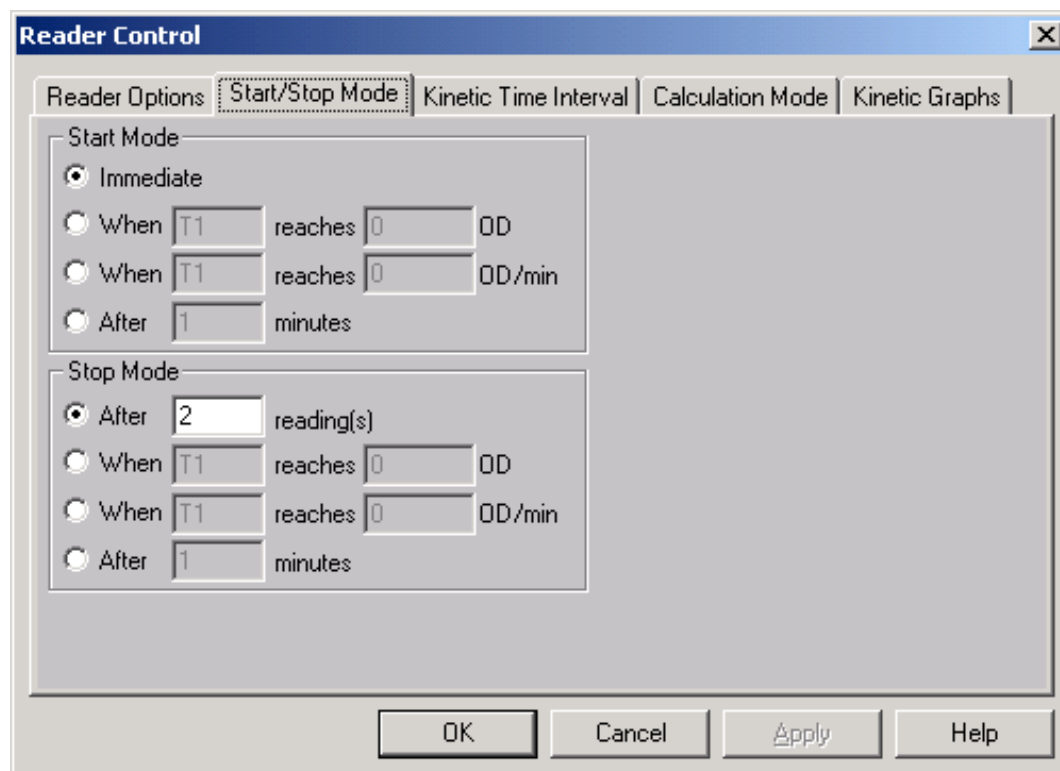

Figure 8-1 Reader Control Dialog Box, Start/Stop Mode
The *Reader Control* dialog box - *Start/Stop Mode* tab is presented in Figure 8-1.
*Note...* The number of points that should be collected can be indicated on the *Start/Stop* tab (Figure 8-1).